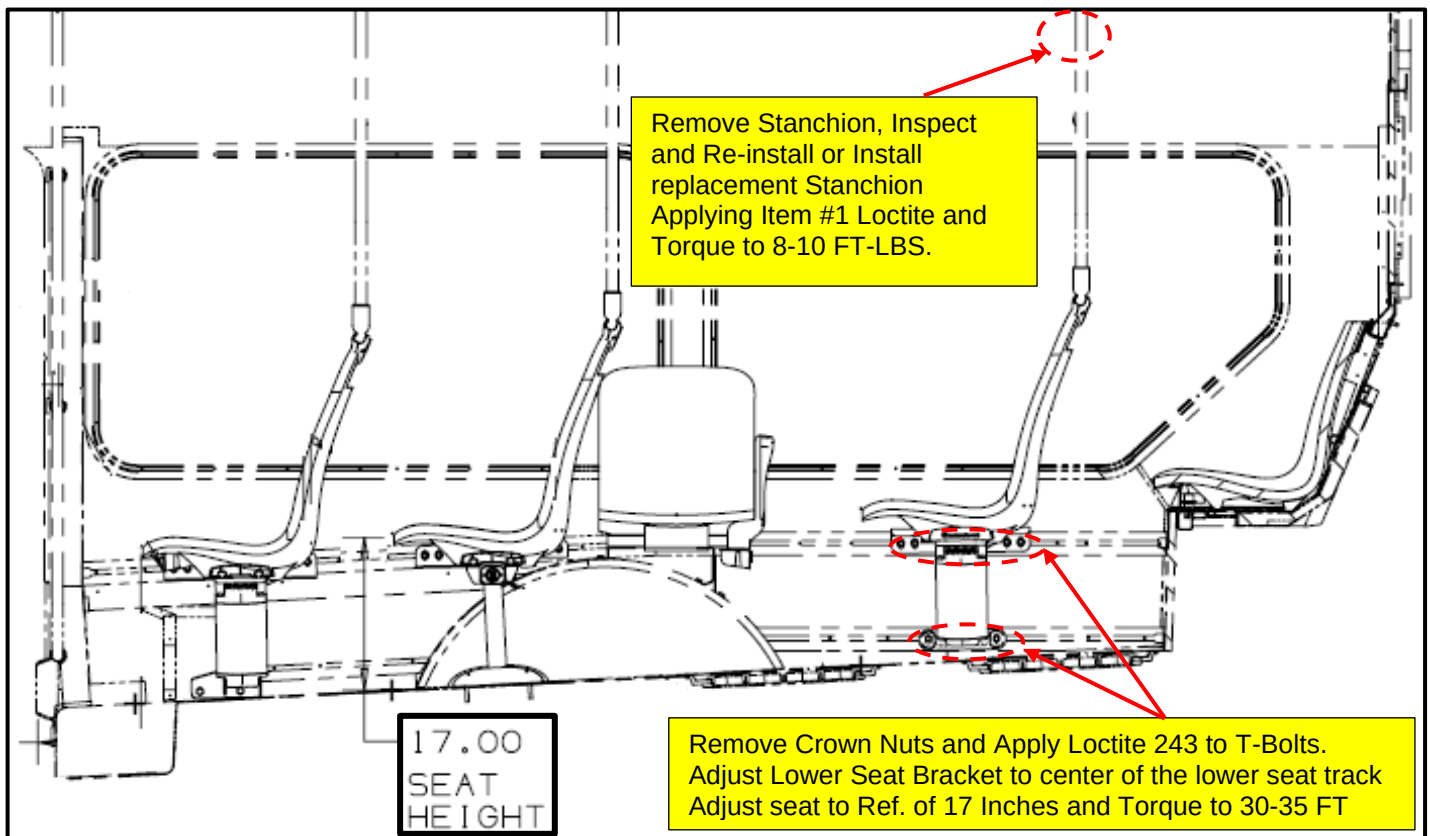

Figure 1: C/S rear double cantilever seat adjustment location reference.
3. Ensure to wear proper PPE and gain access to the curb side rear double cantilever seat shown below. See Figure 1.
4. Loosen the upper and lower crown nuts on each seat identified below retaining the seats to the seat tracks. See Figure 1.
5. Remove each crown nut individually and apply one or two drops of item #1 Loctite to the threads of the T-Bolts in the seat tracks and place the crown nuts back in place hand tight where the seat can be adjusted up and down. See Figure 1.
6. Raise each lower seat bracket to the middle of the lower seat track and adjust the upper as needed to obtain a Ref. height of 17 inches from the floor to the top of the plastic seat base (not the seat cushion). See Figure 1.
7. Re-secure the crown nuts torquing to 30-35 FT LBS. See Figure 1.
8. After the seat has been adjusted remove the stanchion cup hardware and set aside for re-installation. Inspect the stanchion that it fits flush to the bottom of the seat stanchion cup. If not replace under normal warranty process. Re-install existing stanchion or replacement stanchion applying item #1 Loctite to the stanchion cup screw threads and torque to 8-10 FT-LBS. See Figure 1.